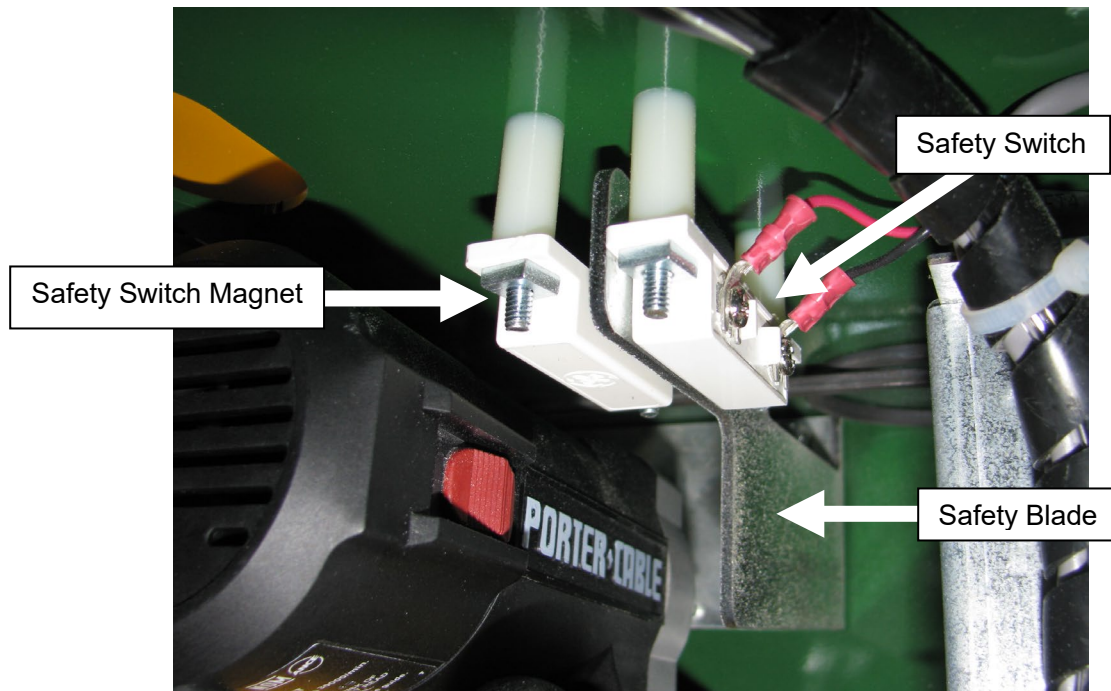

Fig 26
2. The reed switch and magnet are mounted on the case top to the right of the Drill Motor. **See Fig 26.**